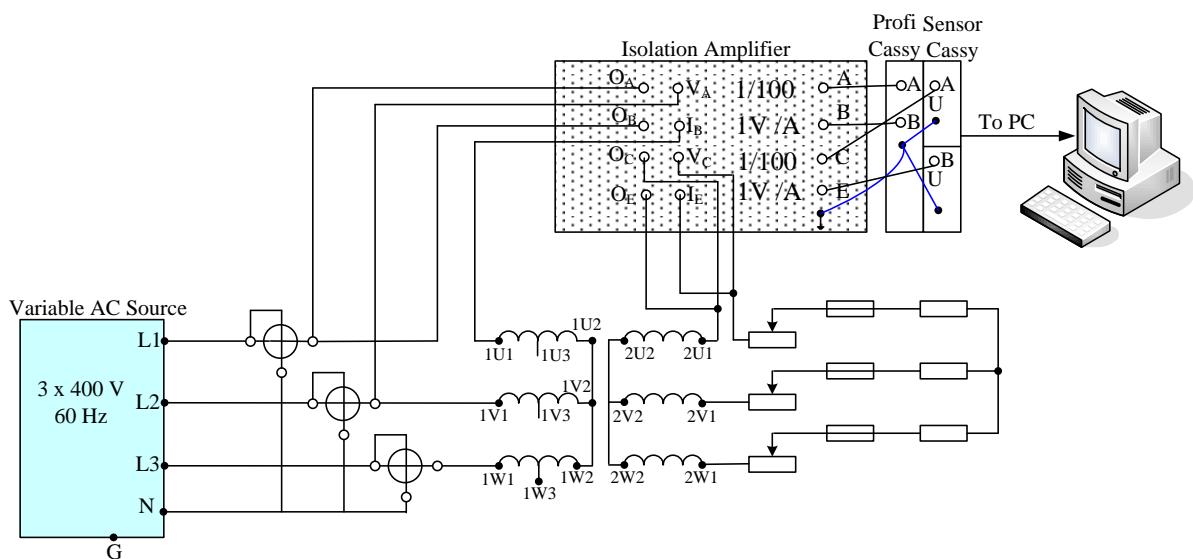

Figure 1 Circuit for investigating the three-phase transformer in Y-Y circuit
1. Connect the circuit as shown in Fig. 1, whereby only one secondary winding is needed.